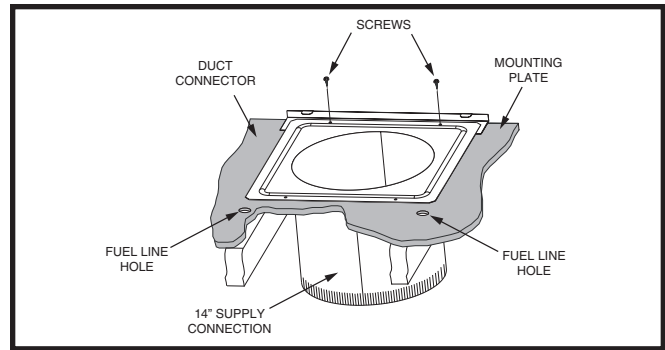

Figure 14. Round Duct Connector Installed
3. Install the mounting plate under the back side of the duct connector. See Figure 14. **NOTE:** Align the screw holes in both components.